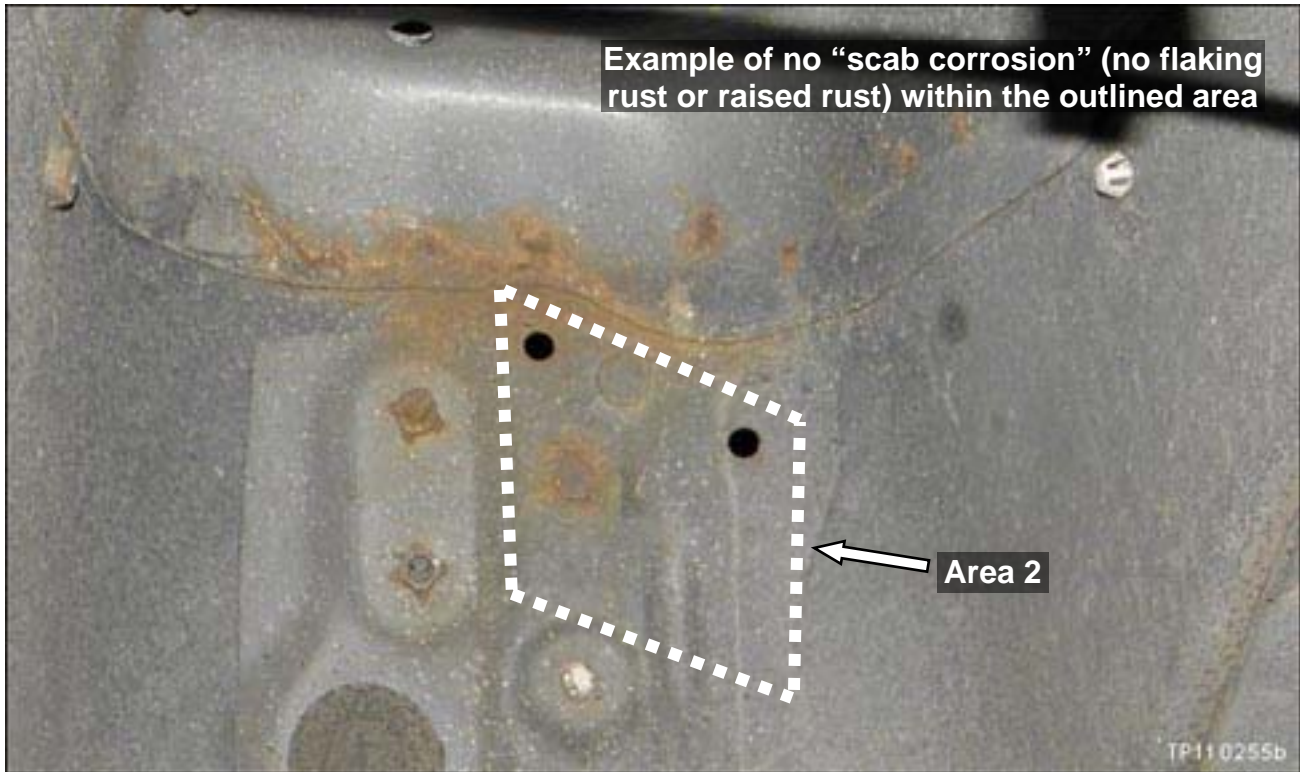

Figure 4
- The area shown in Figure 4 applies to driver side **AND** passenger side.